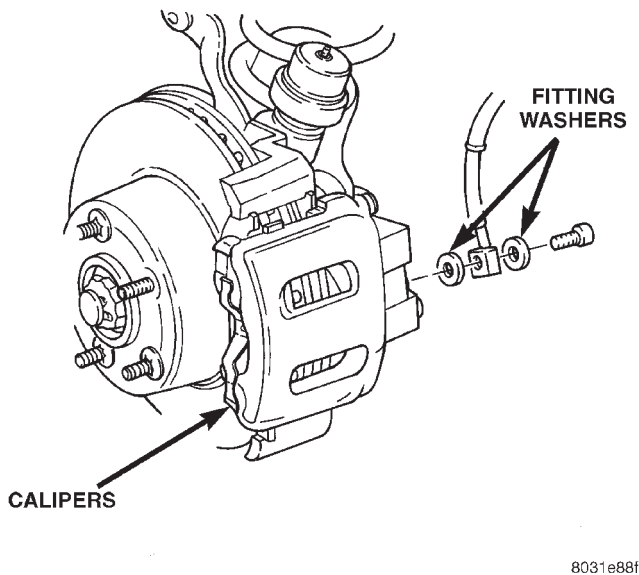

Fig. 27 Brake Hose And Bolt
(5) Remove brake hose mounting bolt and discard washers (Fig. 27).